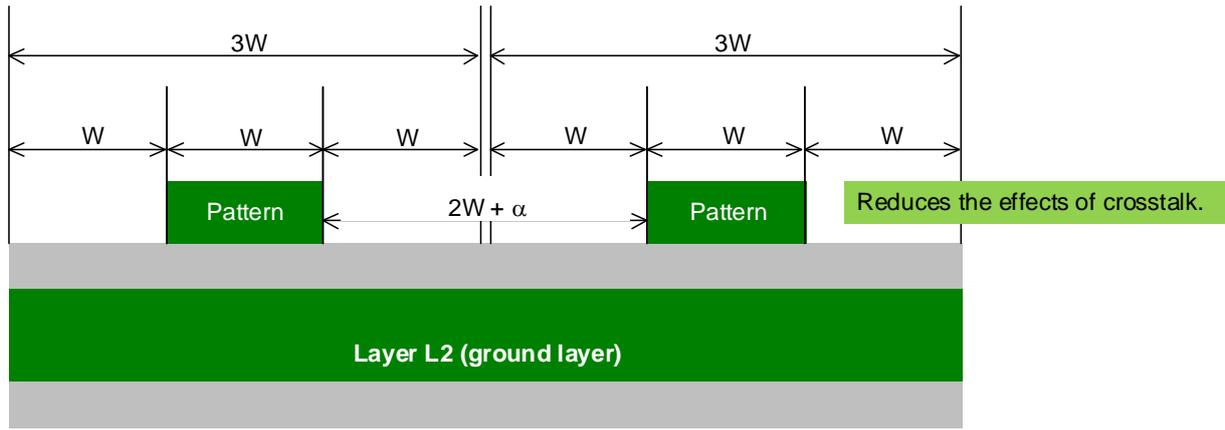

Figure 4 The 3W Rule
9. Design the distance between the SDRAM signal pattern and the MII/RMII signal pattern based on the 3W rule (i.e., a distance of at least  $2W+\alpha$  for a line width of W). (See Figure 4.)